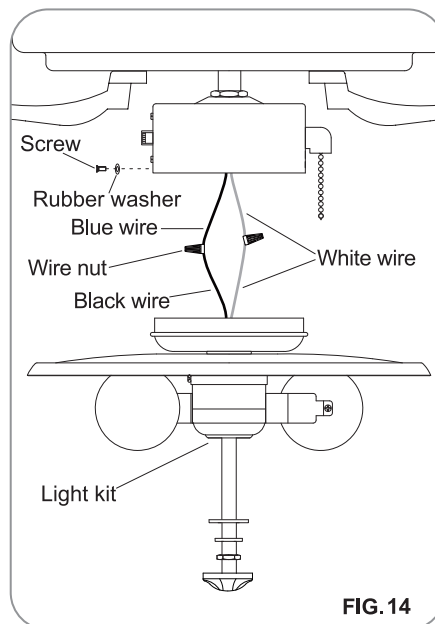

FIG. 14
Step 4: While holding the switch box plate, slide the switch box plate up against the switch box and align the screw holes. Secure the switch box plate to the switch box using the screws and rubber washer removed earlier. (Fig.14)